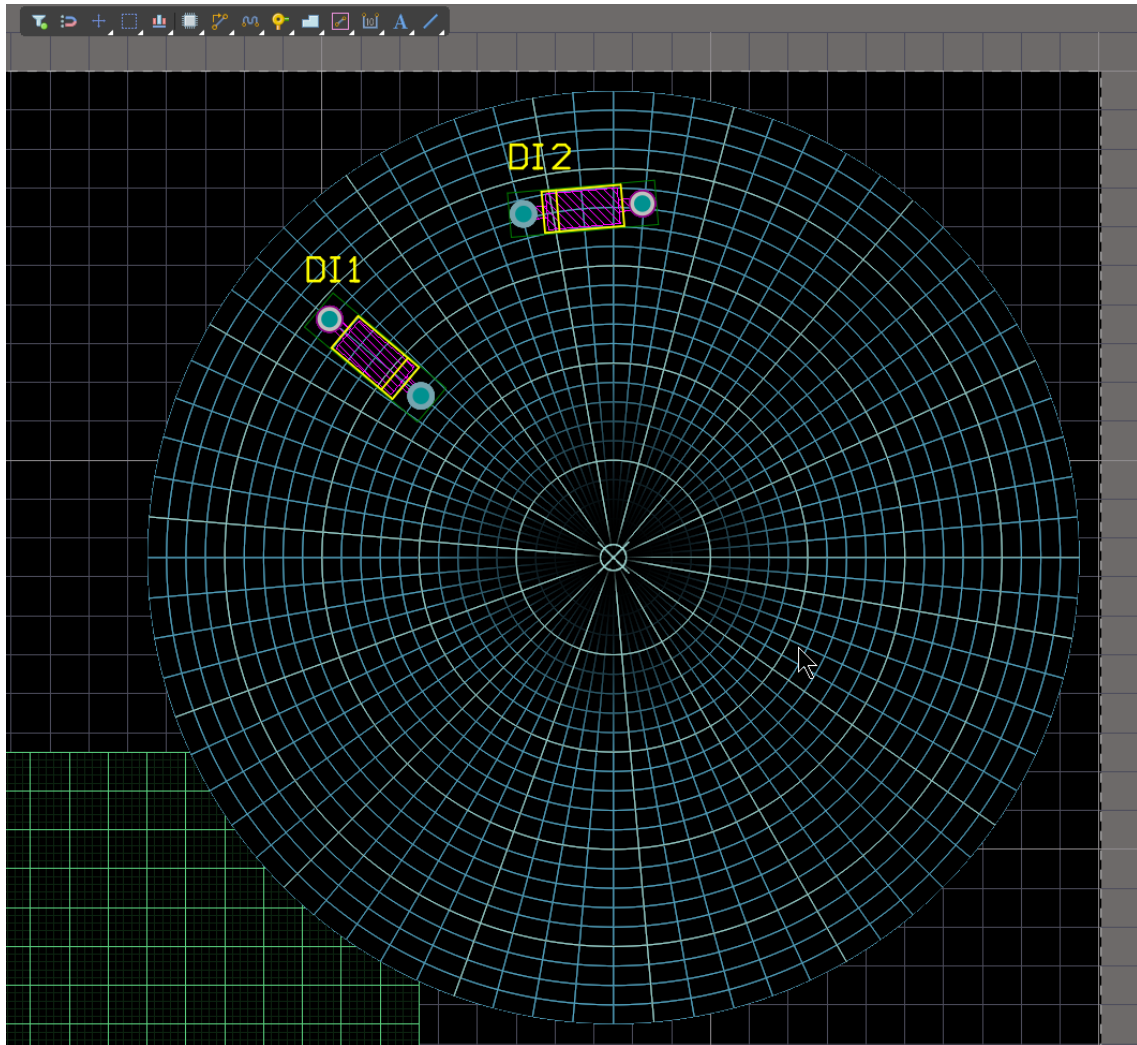

Figure 11. Aligning components to a Polar Grid
35. Drag component DI1 and DI2 to the newly added polar grid. Test the rotations of the components by pressing **Spacebar** and **Shift + Spacebar** while moving the component to notice its alignment to the grid as shown in Figure 11 below.